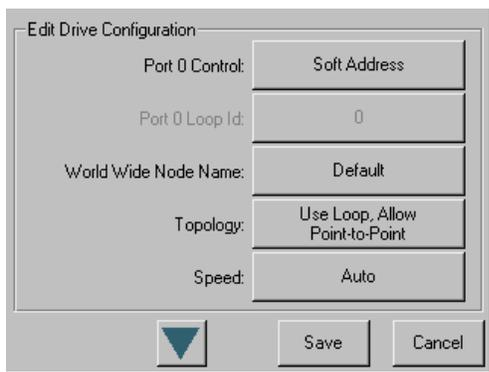

Figure 4-5: Edit FC Drive Configuration (Set Values) Screen
4. Press the **Set Values** button to the right of the tape drive you are changing. The Set Values edit screen (Edit Drive Configuration) is displayed (Figure 4-5).